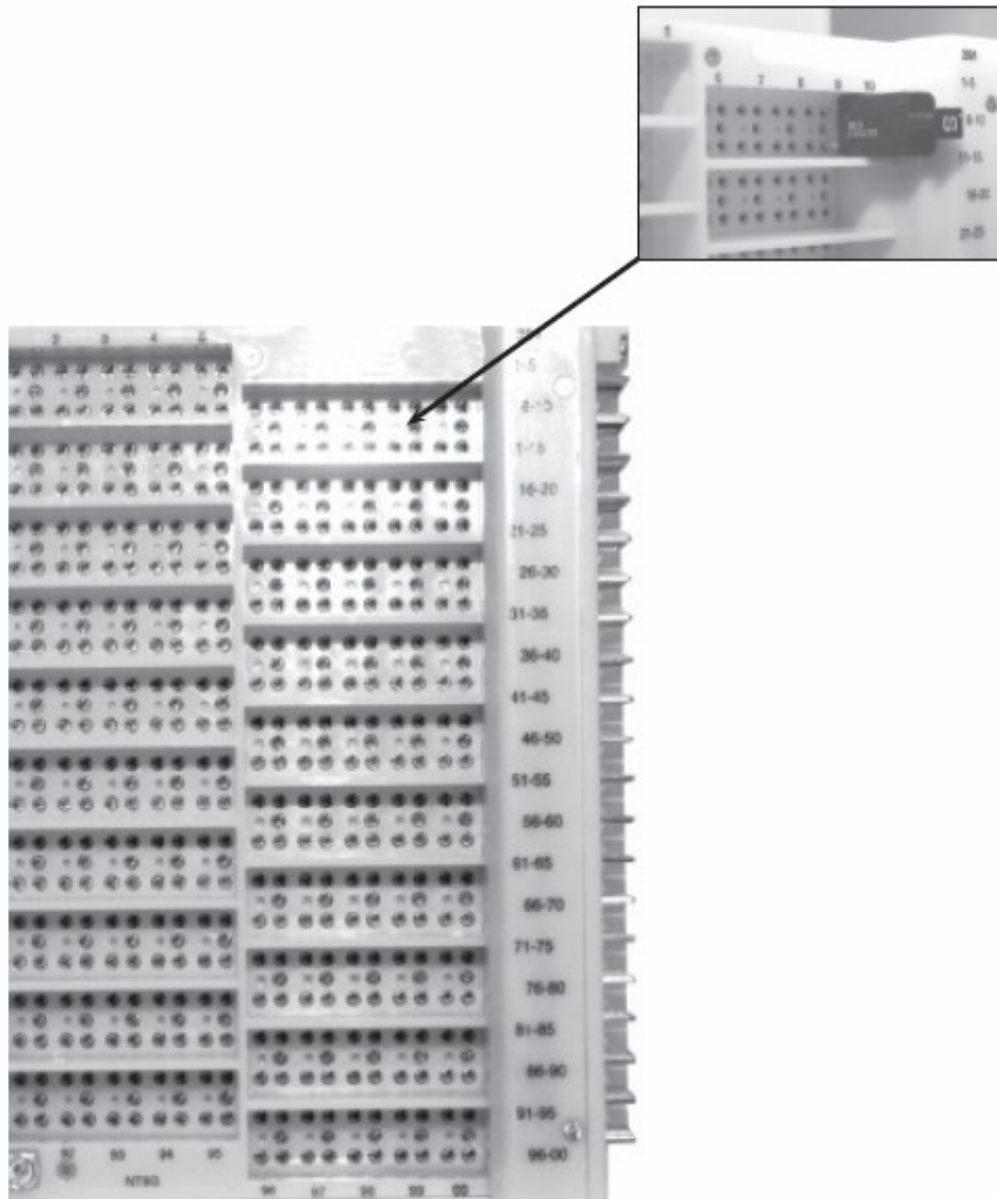

Figure 5 — Protector Module Insertion
The protector field is located on the left side of the C(G)-391 Connector. Numbers at the top and right side of the protector field identify wire pairs. The protector field is keyed so that protector modules can only be installed one way (Figure 5).
8.1 Insert protector modules to “detent” position during installation (Figure 5 inset). Detent position protects OSP pairs, but keeps OSP pairs disconnected from Central Office (CO) equipment.